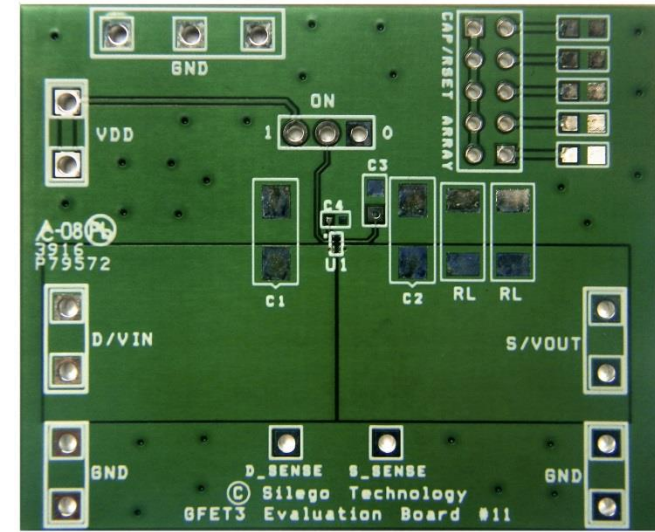
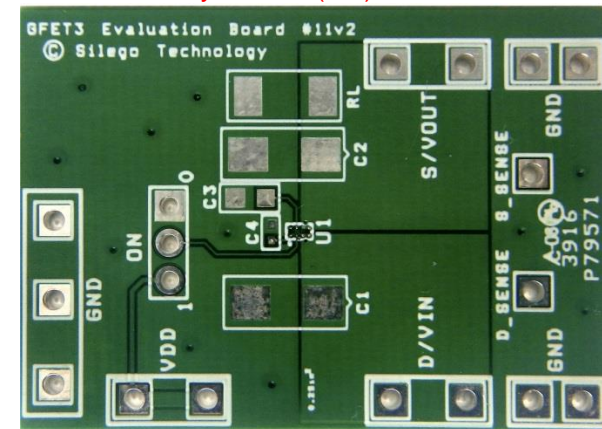

Figure 3. SLG59M1735C Evaluation Test Board
Figure 4. SLG59M1735C Evaluation Test Board
- 2.3. The D/VIN and S/VOUT pins carry significant current. Please note how the D/VIN and S/VOUT pads are placed directly on the power planes in Figure 3, which minimizes the $R_{DS_{ON}}$ associated with long, narrow traces. The D/VIN, S/VOUT and GND pins dissipate most of the heat generated during high-load current condition. The layout shown in Figure 3 and Figure 4 is illustrating a proper solution for heat to transfer as efficiently as possible out of the device.